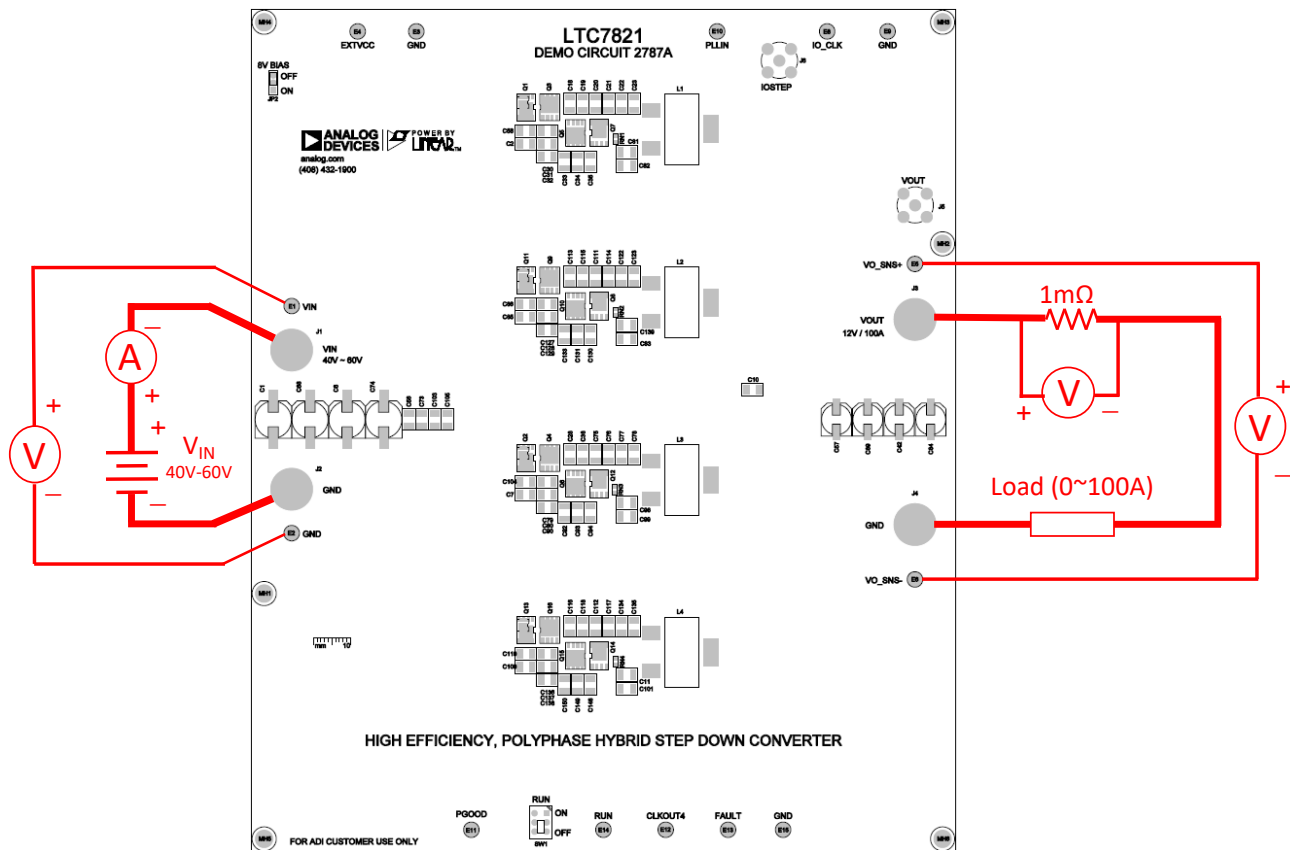

Figure 2. Proper Measurement Equipment Setup
Demonstration circuit 2787A is easy to set up to evaluate the performance of the LTC7821. Refer to Figure 2 for the proper measurement equipment setup and follow the procedure below.
2. Connect the output loads between V_{OUT} and GND (**Initial load: no load**). Refer to Figure 2.